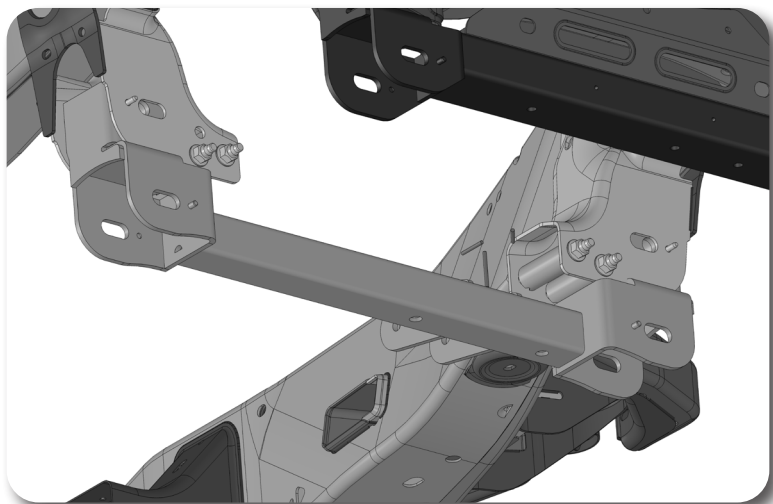

Figure 30
40. Install the new rear cross member with the provided longer 18mm bolt, prevailing torque nuts, and washers. The tabs on the cross member should align with the center differential bracket. Run the bolts from front to rear. Leave hardware loose. **Fig. 30.**